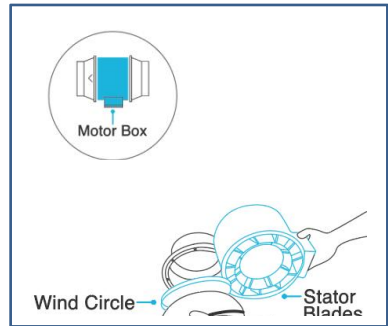

Fig.2.
- 2、 Remove the motor box from the flange bracket.Remove the wind circle between the motor box and the intake flange.See the(Fig.2.)